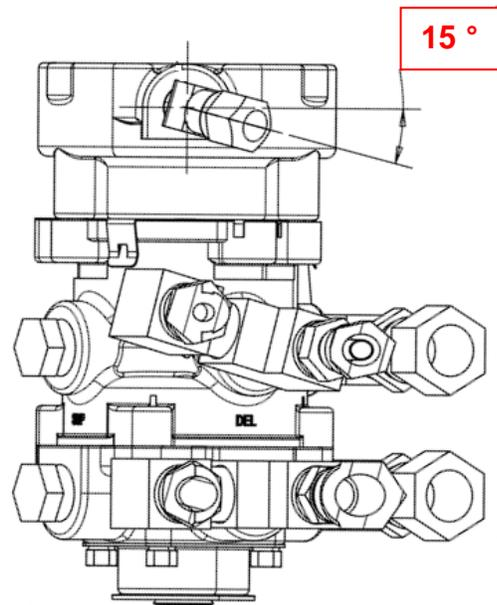

Figure 9: Align the 45 Degree Elbow
25. Install the 45 degree elbow previously removed in step 23 at the BVA port, see Figure 9.
26. Align the elbow as shown in Figure 9 (15 ° relative to BVA mounting surface).